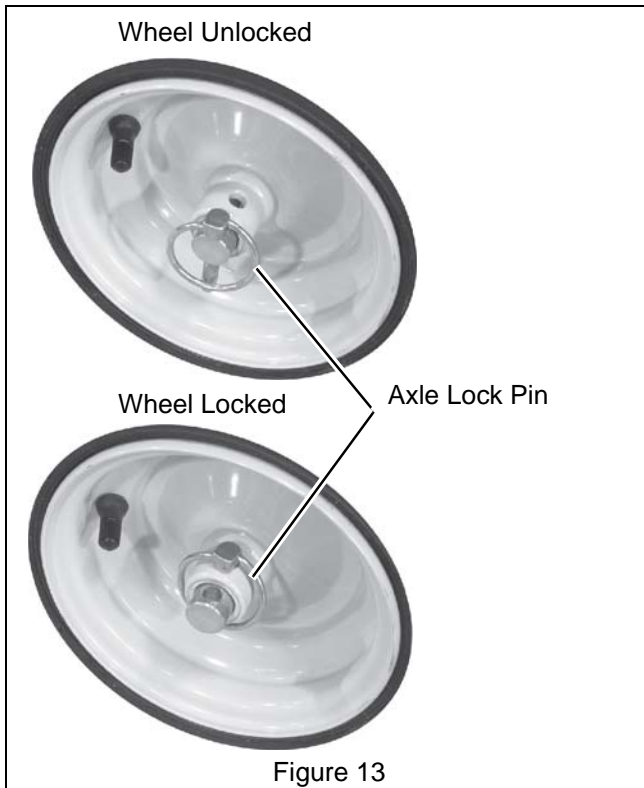

Figure 13
**Axle Lock Pin (Figure 13) (926001, 101, 504)**